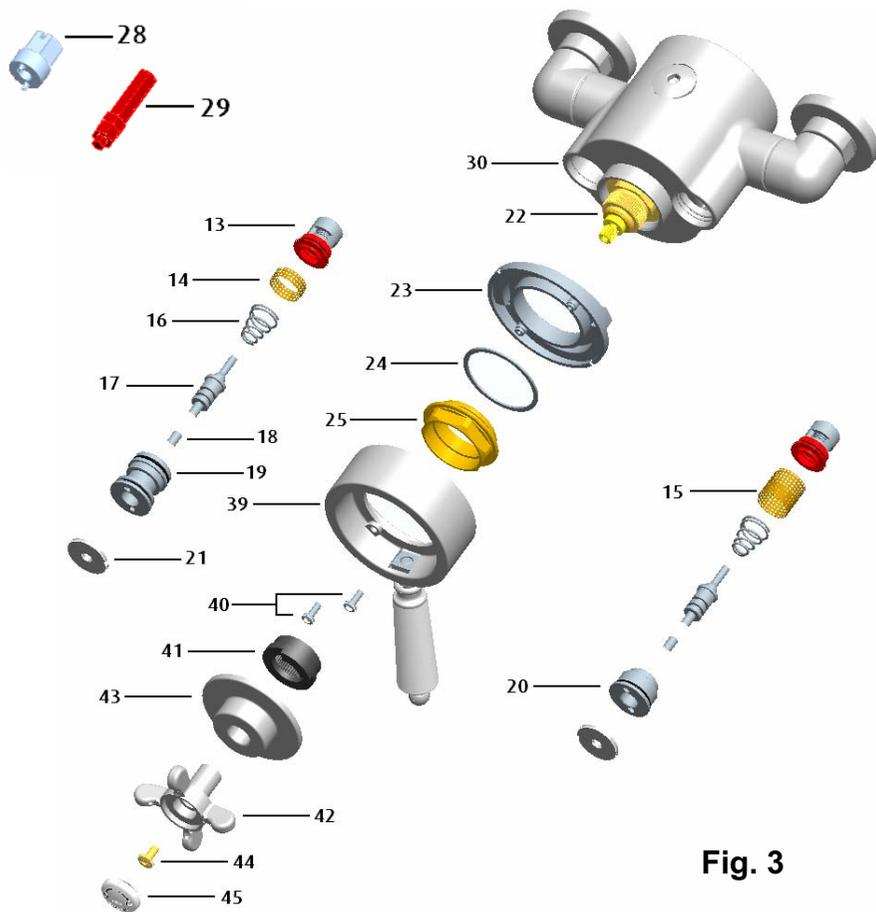

Fig. 3
8.6 Cleaning the Filters (See Fig. 3)
8.7 Flow Valve Maintenance (See Fig. 3)